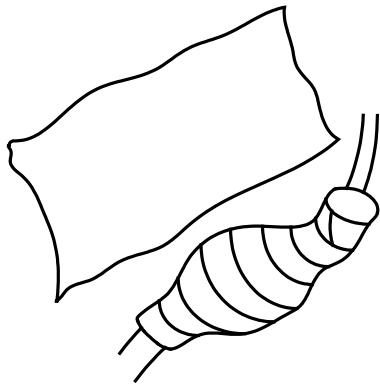

Figure 4: Wrapping the Connection with Weatherproofing Wrap
2. Unroll a section of paper-backed weatherproofing wrap that is long enough to enclose the taped connection lengthwise (Figure 4).